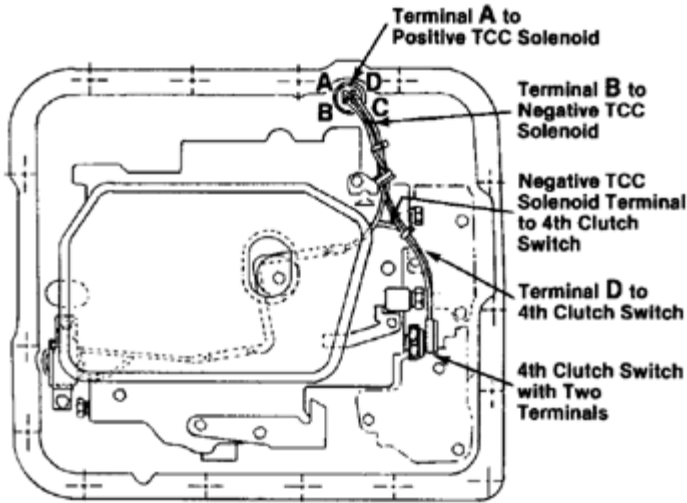

Figure 1 - 700R4 Street/Strip Wiring Diagram
Step 3 Based on your application, find the wiring diagram to determine the proper fourth gear pressure switch location. See **Figures 1, 2 and 3**. Install the switch and torque to 8 foot-pounds. Additional OEM switches may be left in place even though they will not be utilized.